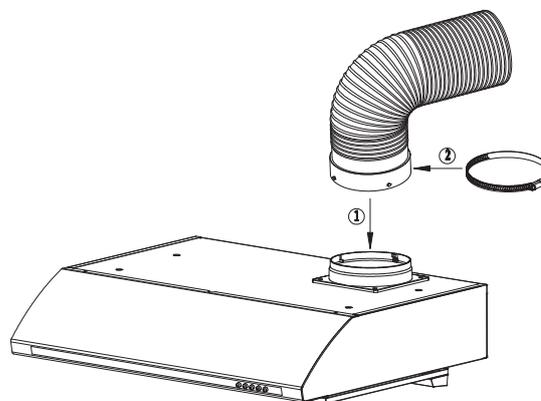

Fig.2
- Connect the extractor hood to the exhaust duct through a pipe of minimum Ø150mm. Refer to Fig.2. Use the shortest and straightest duct route possible.